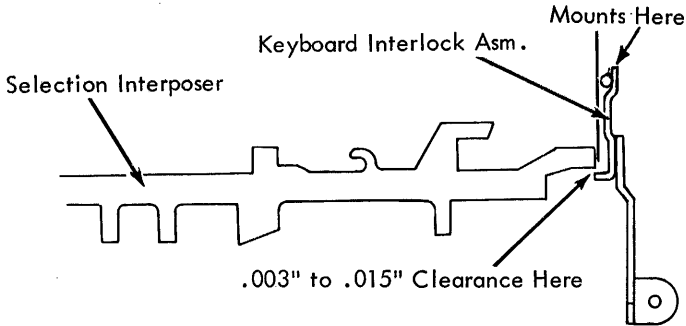

FIGURE 60. Keyboard Interposer Lock Assembly
- a. Adjust the keyboard interposer lock assembly by loosening the four mounting screws and moving the assembly up or down for .003" to .015" clearance between the bottom of the interposer and the keyboard interposer lock assembly when the keyboard interlock assembly is activated (Fig. 60).